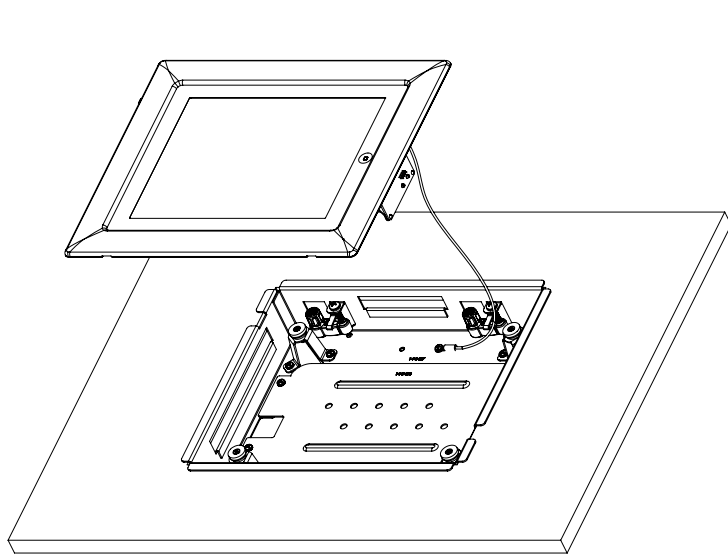

Figure 7: Attaching Safety Lanyard.
9. Attach safety lanyard on top center screw of retainer assembly as shown in figure 7.